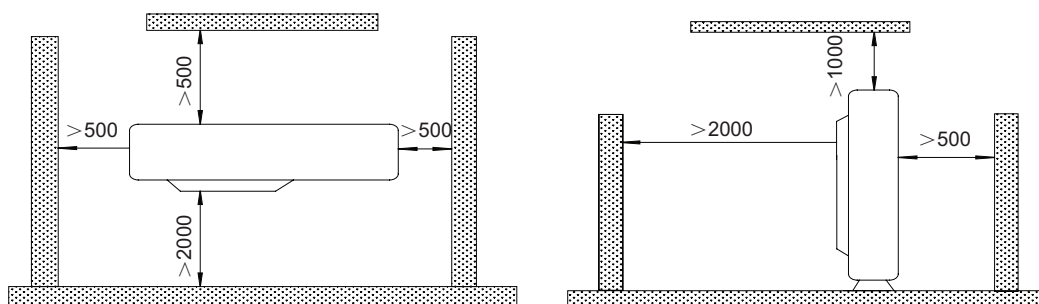

Figure 3-2-1
(7). Provide the space shown in Figure 3-2-1, so that the air flow is not blocked. Also for efficient operation, leave three of four directions of periphera